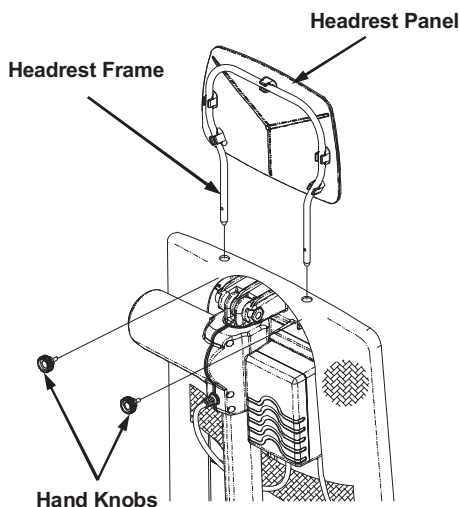

Fig. 12. Install the Headrest on to the Backrest
2. Insert the Headrest into the holes on the top of the Backrest and tighten it with 2 hand knobs, as shown in Fig. 12.